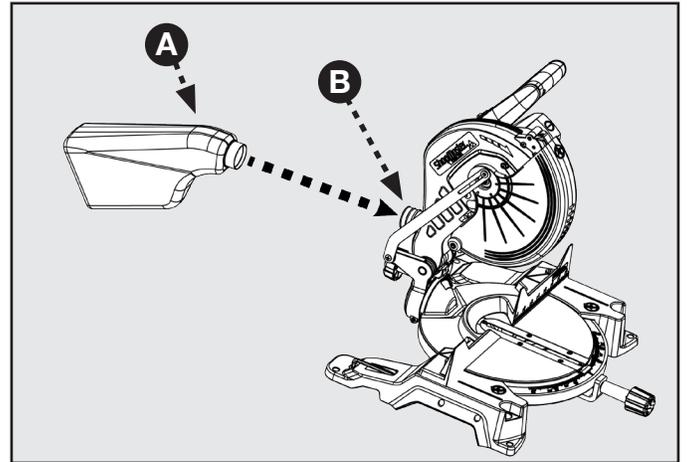

FIGURE 6
The tool includes a dust collection bag that attaches over the exhaust port on the upper blade guard. To install, slide the plastic collar (D) of the dust bag onto the dust port (E). See Figure 6